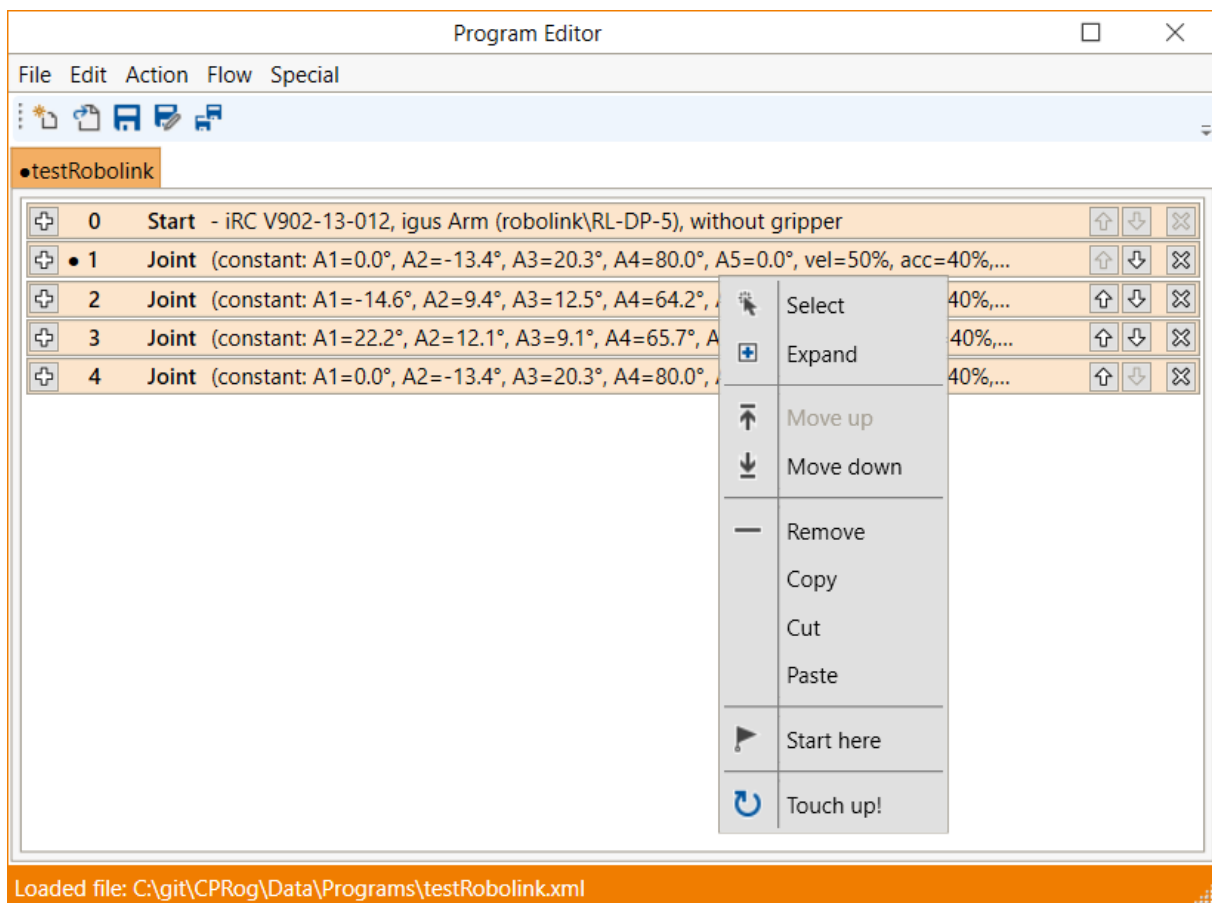

Figure 14: The context menu of a command
To move a command, use the arrows on the right side of the command line. Alternatively, you can click "Down" or "Up" from the command context menu (see Fig. 14).
- Open the context menu by right-clicking on the command and click on "Touch Up!" (see Fig. 14).
To select a specific command as the starting point for execution, click on "Start Here" in the context menu (see Fig. 14).